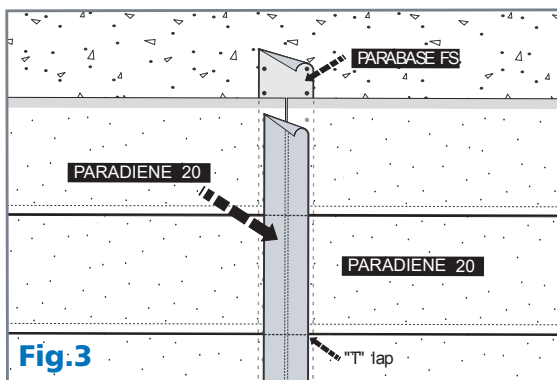

Fig.3
6. Fully adhere minimum 12" wide strips of Paradiene 20 applied in PA-311 R Adhesive centered over the joints of the Paradiene 20 base ply. (See Figure 3.)